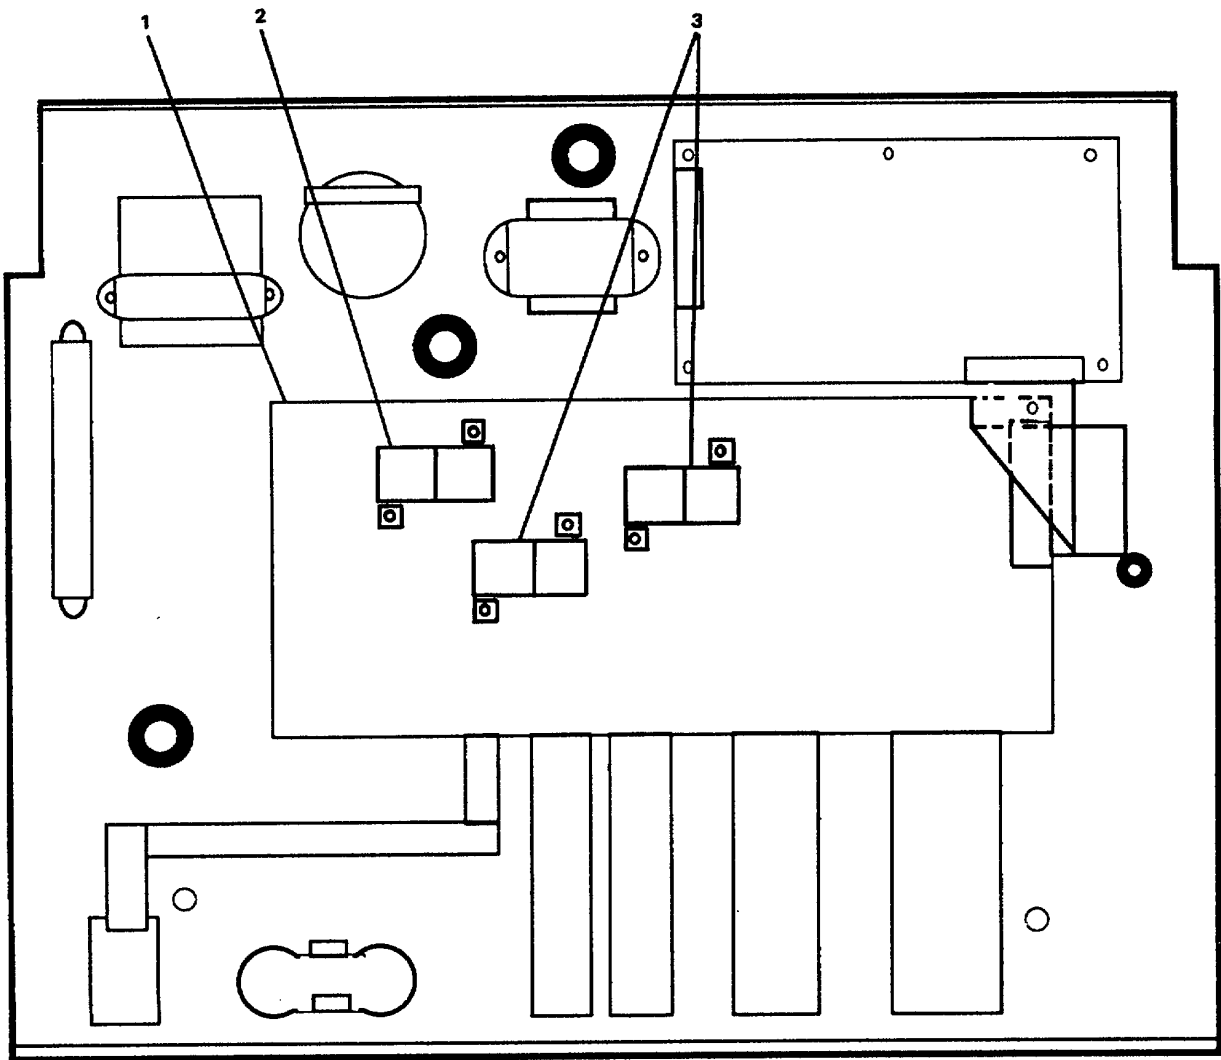

FIGURE 3-61. Replace/Repair Control Printed Circuit Board.
**3-59. Replace/Repair Control Printed Circuit Board. (Figure 3-61)**